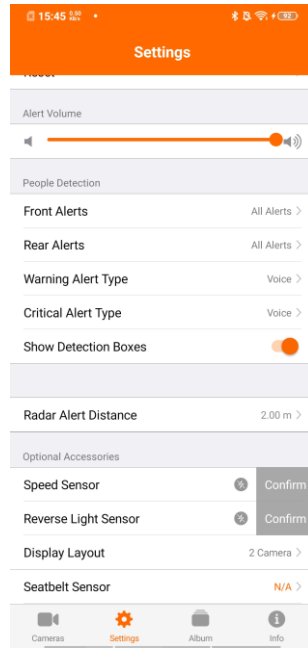
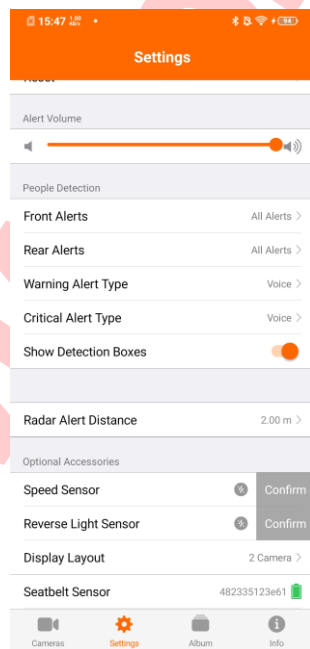
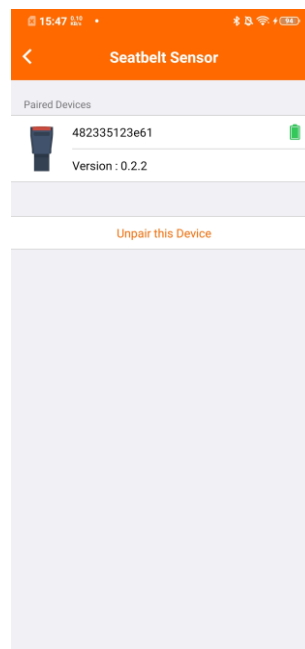

Figure 5
Figure 6
Figure 7
3. Enter the app, the "Camera" interface will be displayed by default, click "Settings", and find the "Optional Accessories" in the "Settings" page, and the seatbelt is N/A (unpaired state) when it is used for the first time (Figure 5).
4. If the Seatbelt Sensor has been paired before, the optional accessory "Seatbelt Sensor" is in paired status and displays the MAC address of the Seatbelt Sensor (Figure 6). Click on the "Seatbelt Sensor" in the app settings page to unpair (Figure 7). After unpairing, it will revert to the "unpaired" state (Figure 5).